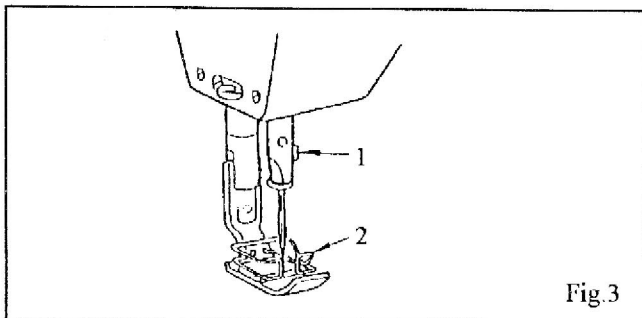

Fig. 3
## INSERTING THE NEEDLE (See Fig. 3)
Do not operate without finger guard (2)! (See Fig. 3)
Set the needle bar at its highest point. Loosen needle set screw (1). (see Fig. 3) Insert the needle in the needle bar and push it up as far as it will go. Make sure its long groove faces toward the front. Tighten needle set screw (1) securely.